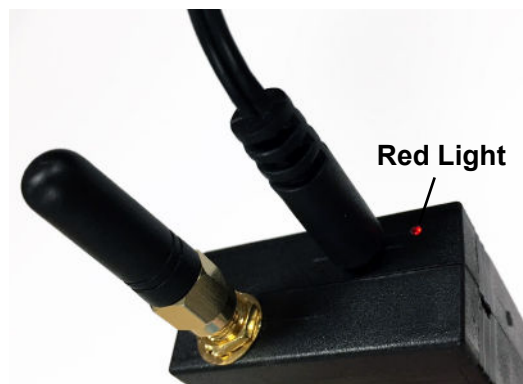

Figure IS-12, Ready to Pair
8. Connect the Bluetooth dongle to the power adapter provided. The LED should illuminate red, indicating it is ready to be paired. Refer to Figure IS-12.